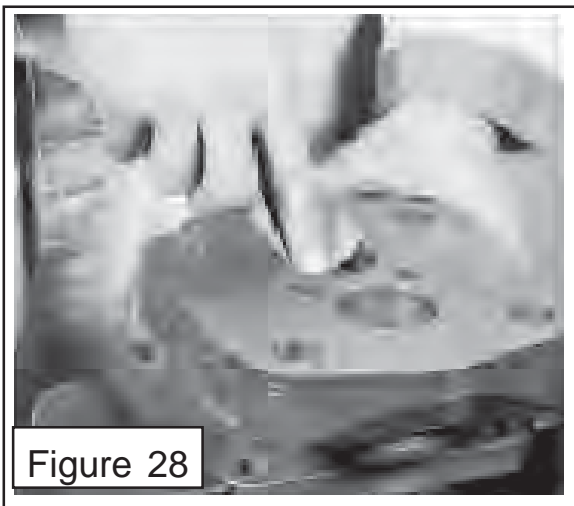

Figure 28
3. If the bushings (**figure 28**) are to be replaced with new ones. After the old ones have been removed, Inspect the holes where the new bushing will be pressed in. If there are burrs or rough edges at the tops of the holes they can be de-burred by using your finger and emory cloth. Keep the emory cloth on an angle and only around the top of the bore (**figure 28**). Do this to each hole for the bushing that are to be replaced. **IMPORTANT!** Bushing must be pressed in with an arbor press **DO NOT** drive them in with a hammer.